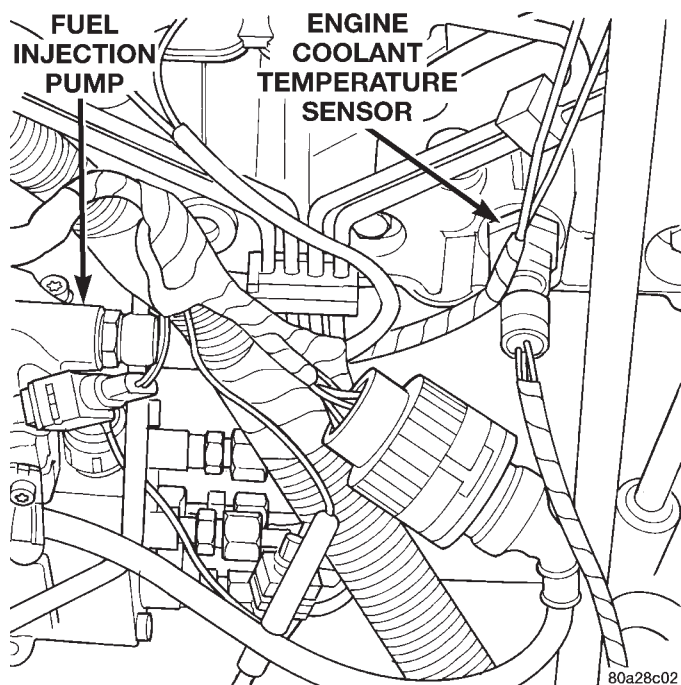

Fig. 35 Engine Coolant Temperature Sensor
- (6) Remove the electrical connector at engine coolant temperature sensor (Fig. 35).